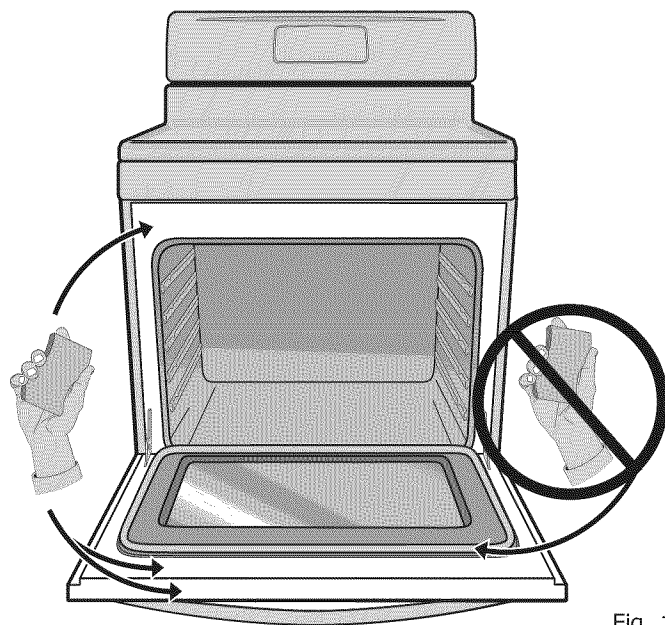

Fig. 1
- **DO NOT** clean the oven door gasket (See Fig. 1). The woven material of the oven door gasket is essential for a good seal. Care should be taken not to rub, damage or remove the gasket.
- Clean any soil from the oven frame, the door liner outside the oven door gasket and the small area at the front center of the oven bottom. These areas heat sufficiently to burn soil on. Clean with soap and water. These areas are shown in white (See Fig. 1).